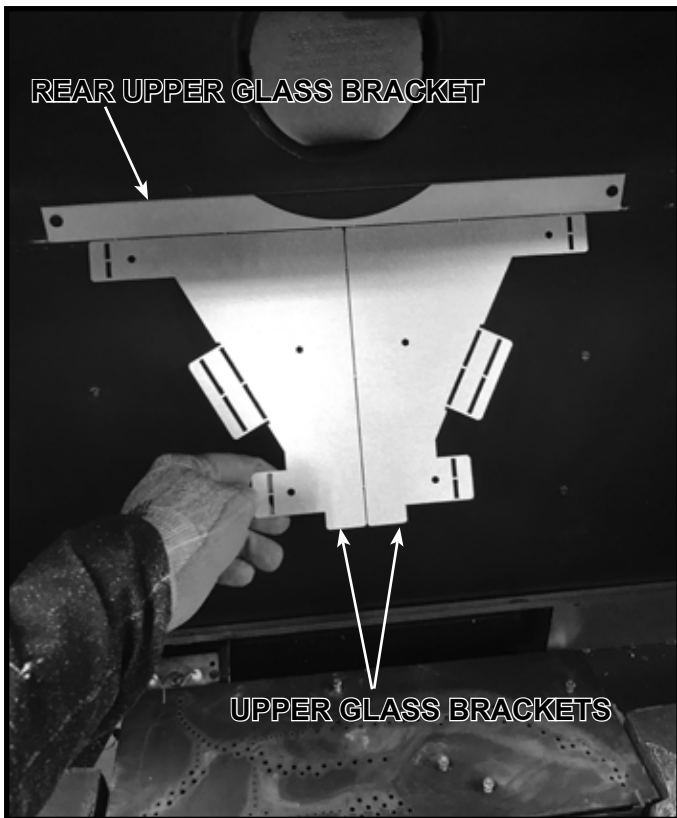
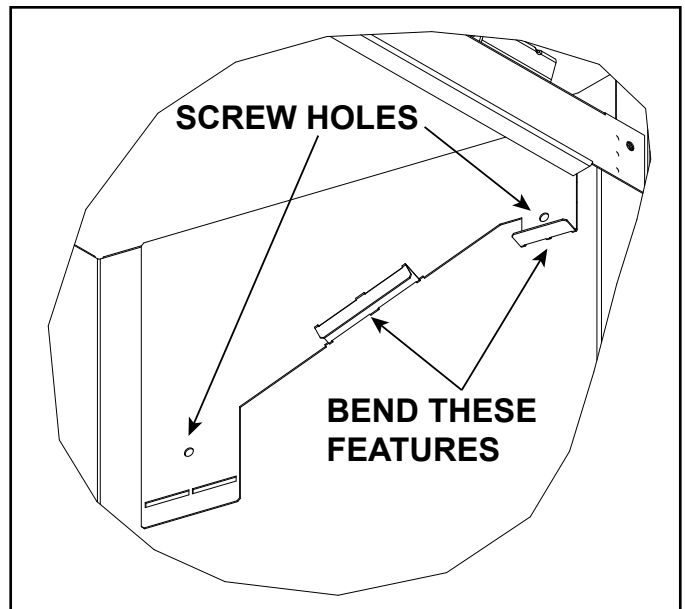
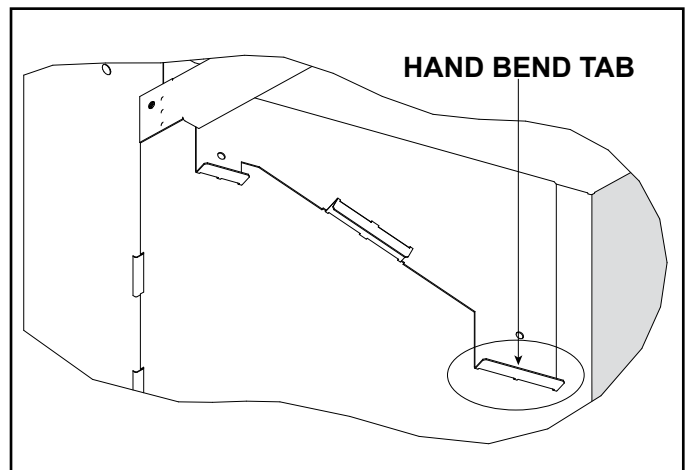

Figure 11.11 Remove Upper Glass Brackets
Figure 11.13 Bend Upper Glass Brackets (Upper Right Bracket Shown)
Figure 11.14 Upper Glass Brackets Installed (Left Upper Bracket Shown)
3. Remove the upper glass brackets from the back of the firebox by pulling forward on the bottom edge to break them free. Then separate them by breaking them apart. See Figure 11.11 and 11.12. Bend the “Right” bracket as shown in Figure 11.13. Bend the “Left” bracket shown in Figure 11.14.
4. Install right upper glass bracket by pushing the bracket "up" to the firebox top and "out" to the front face of the firebox. The front edge of the bracket should be tight to the firebox face and the top edge of the bracket should be tight to the firebox top. Install the bracket by inserting the two self-tapping screws through the bracket into the firebox. See Figure 11.13. Repeat this step for left upper glass bracket installation.
6. With one hand on the rear glass panel, bend "up" one hand bend tab on the upper glass bracket to approximately 90 degrees. See Figure 11.14. Bend "up" the hand bend tab on the opposing bracket. The rear glass panel is now installed. This panel will be held in place by the side panels once they are installed.